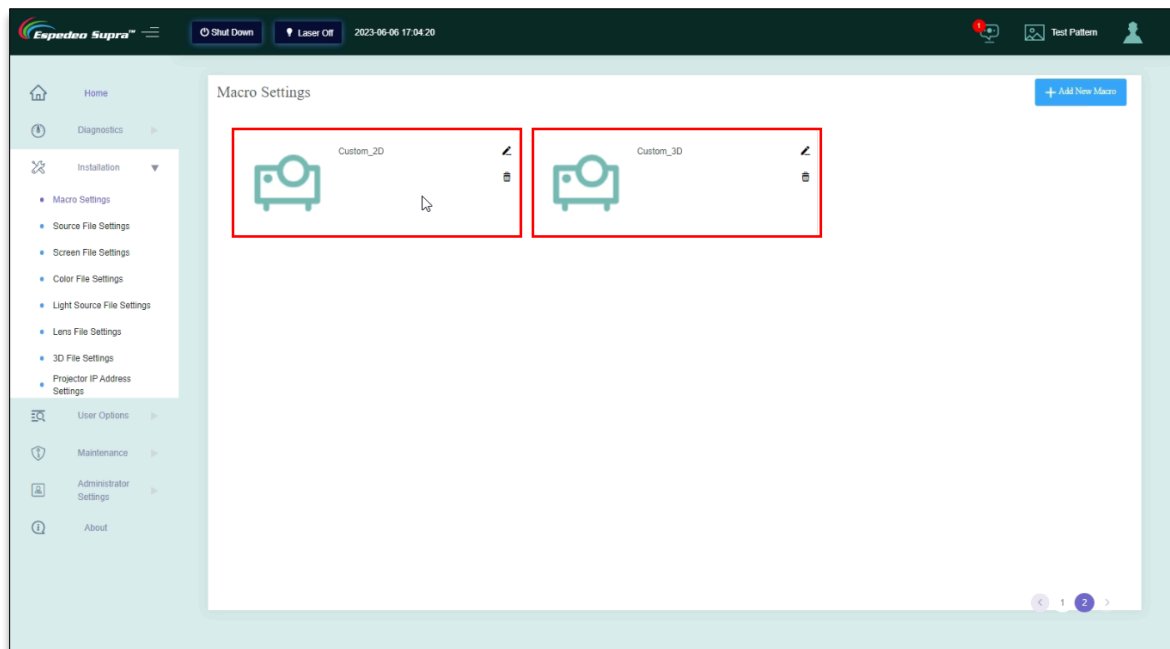

Figure 57: List Custom 2D/3D Macros
- III. You can now view these custom macros under **Macro Settings**, as shown in **Figure 57**.